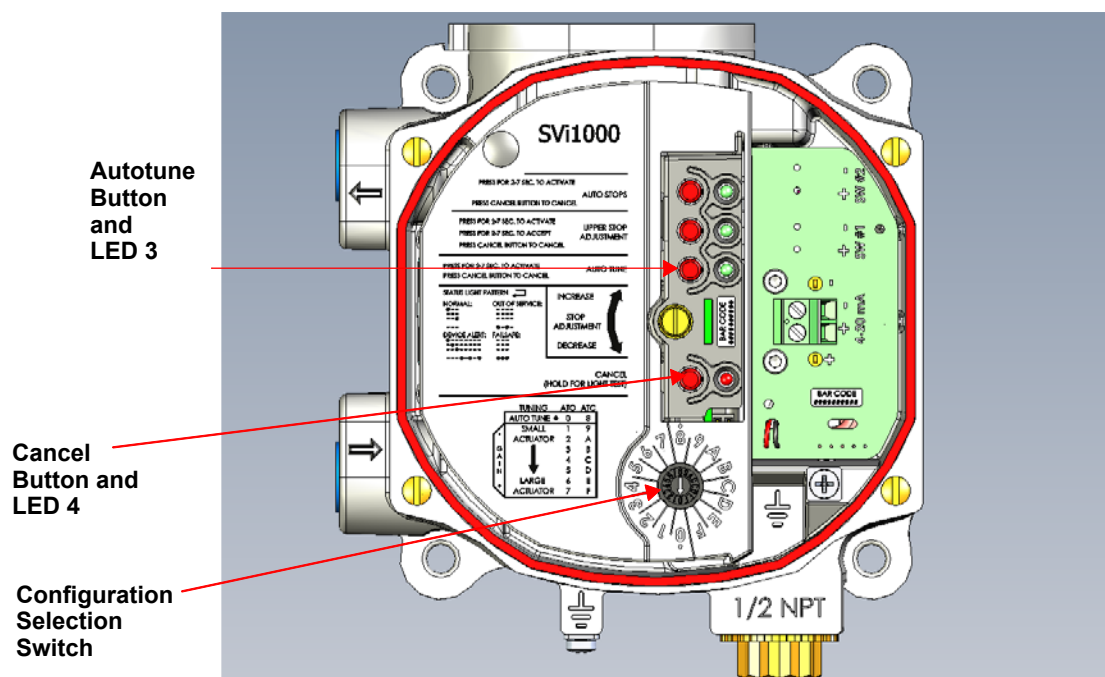

Figure 29 - Configuration Selection Switch
1. Set the *Configuration Selector Switch* to the auto tuning parameter (Figure 29):